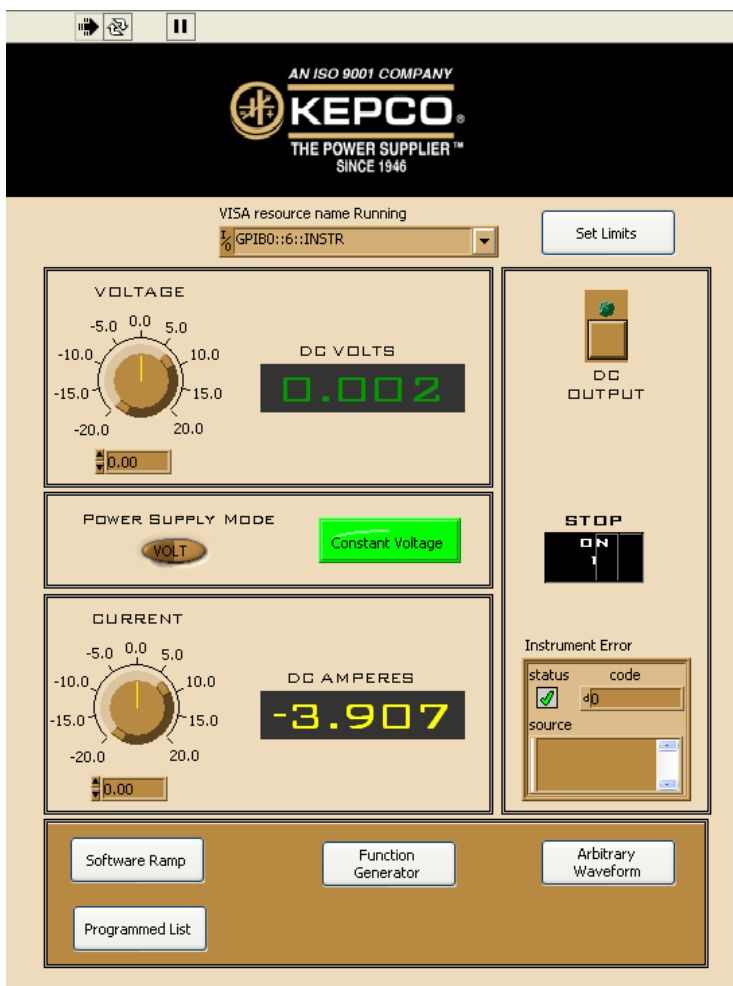

FIGURE 5. FRONT PANEL WINDOW
7. Start the Kepco interactive demo program that was installed in step 2. The file named KepcoDCPwr Interactive Example.vi is located in program files\national Instruments\labview\drivers\kepco. Either double-click on the file or open the file using File > Open from within LabView. When the program is opened, the Front Panel (Figure 5) is displayed.
8. At the Front Panel (Figure 5), click the **Power** switch to show **Off - 0**.